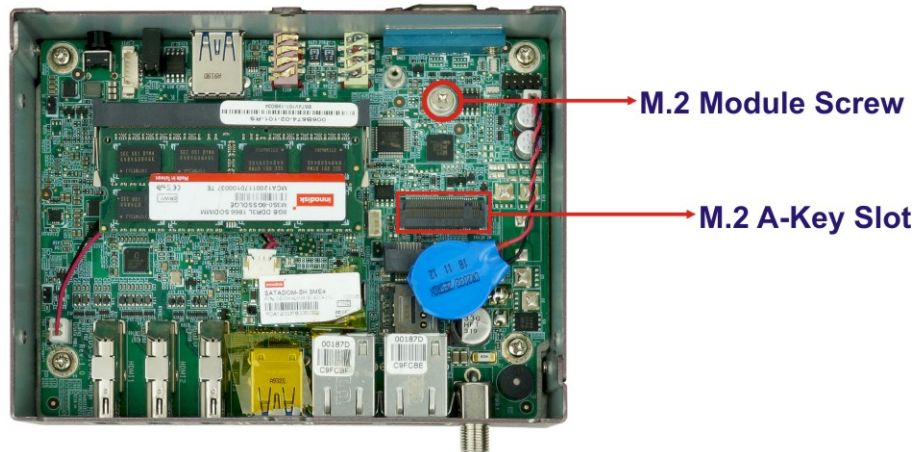

Figure 3-5: M.2 A-key Slot Location
- Step 4:** Locate the M.2 A-key slot on the motherboard (Figure 3-5). Remove the M.2 module screw.